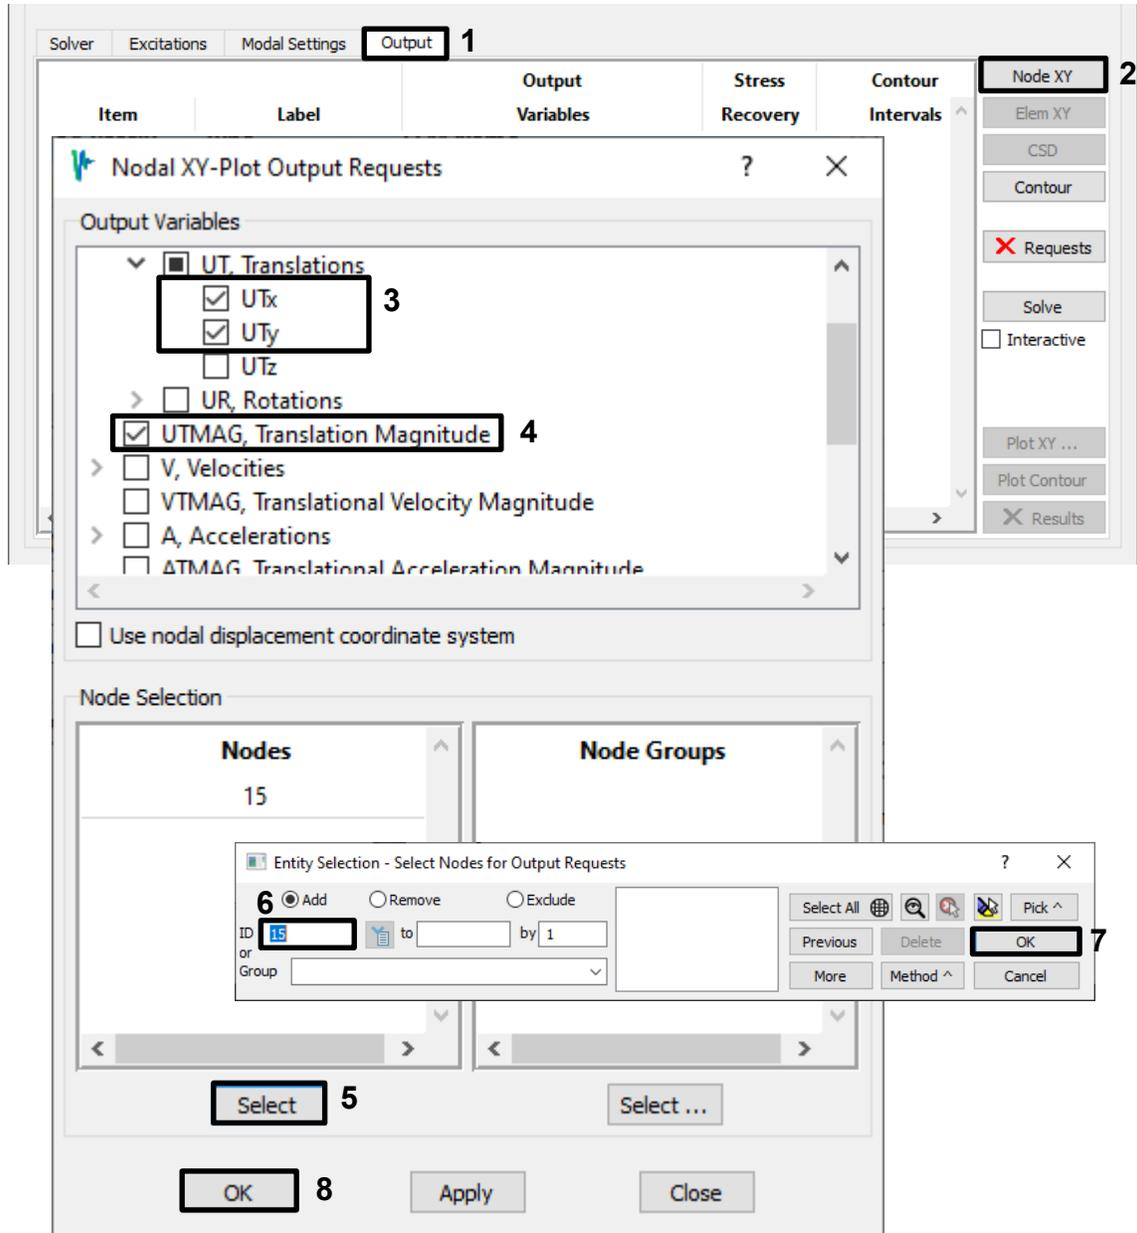

Figure 4-117. Request displacement plots for node 15.
- Go to the *Output* tab. To get a measurement of the structure's movement over time, create Nodal XY Plot output request for X and Y displacements ( $UT_x$ ,  $UT_y$ ) and displacement magnitude ( $UTMAG$ ) for node 15, as in Figure 4-117.